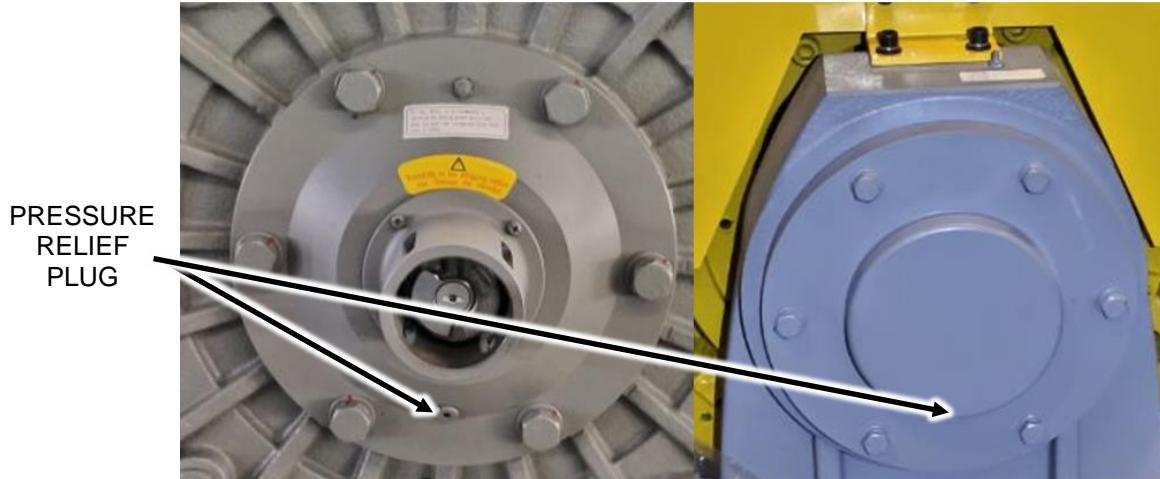

Figure 13
1. To grease bearings, first remove the pressure relief plugs from the outboard stand and the back of the machine. See Figure 13.